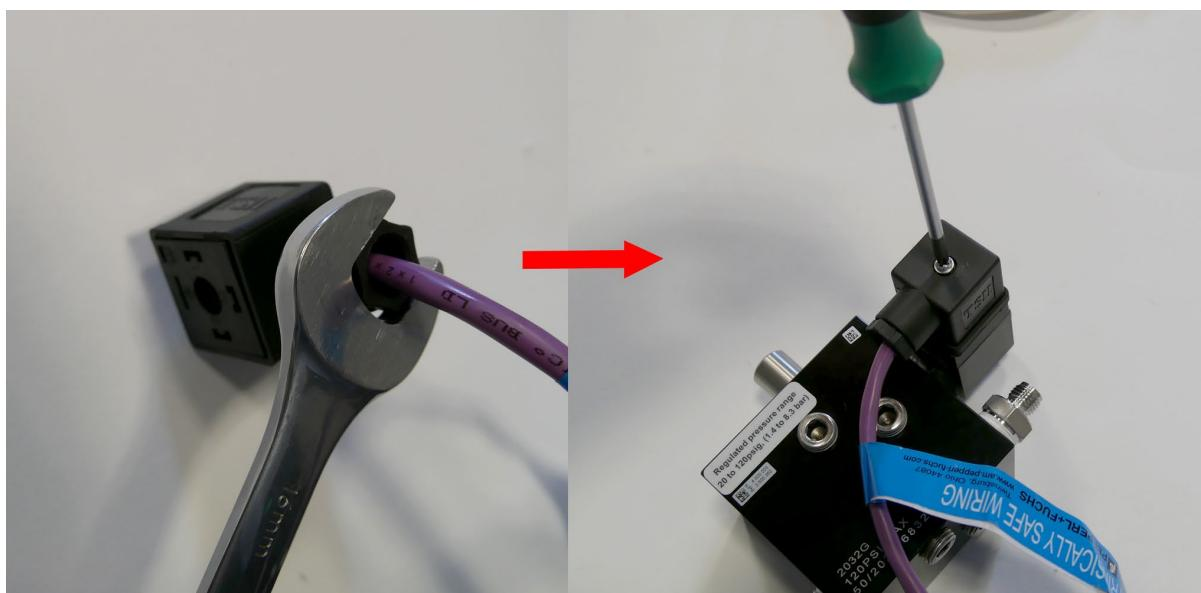

Figure 138. Manifold connection block closing.
4. Close the manifold connection block and twist the plastic nut with 16mm wrench, then screw the block into the manifold using cross screw (Figure 138).
7. Connect the external 3x1mm² power cable (5) (cable not included in the delivery, Figure 147) into purging controller (3) through the M16 gland as shown in **Figure 138**. Screw the PE nut with 7mm socket wrench.